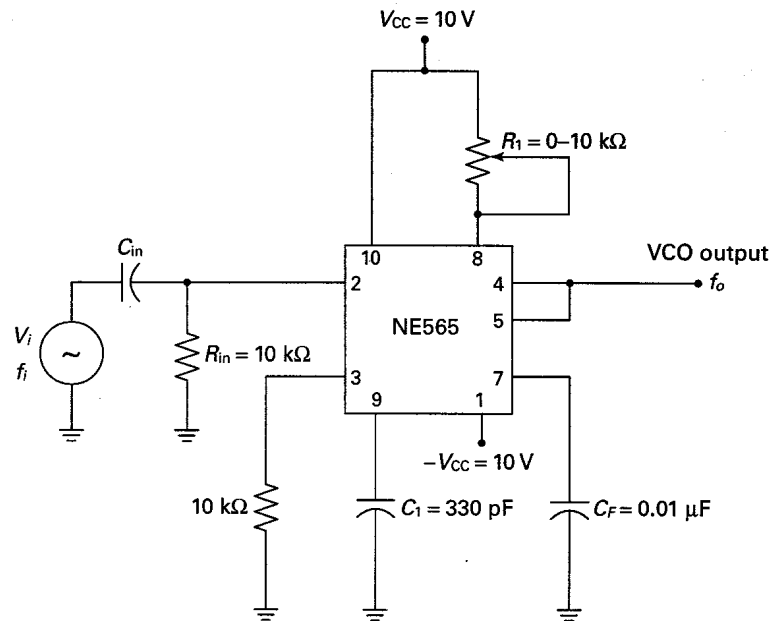

Fig. 2-14
**EXAMPLE 2.7.** Refer to Fig. 2-14.
**EXAMPLE 2.8.** Calculate the capture range in Fig. 2-14 if  $C_F$  is changed to  $0.02 \mu\text{F}$ .